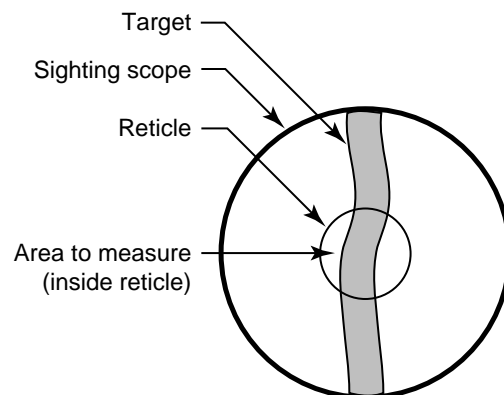

Figure 2-11: Sensor Eyepiece and Reticle
2. Look through the eyepiece and position the sensor so the target is centered as much as possible in the middle of the reticle (Figure 2-11). (Note that the target appears upside down.)